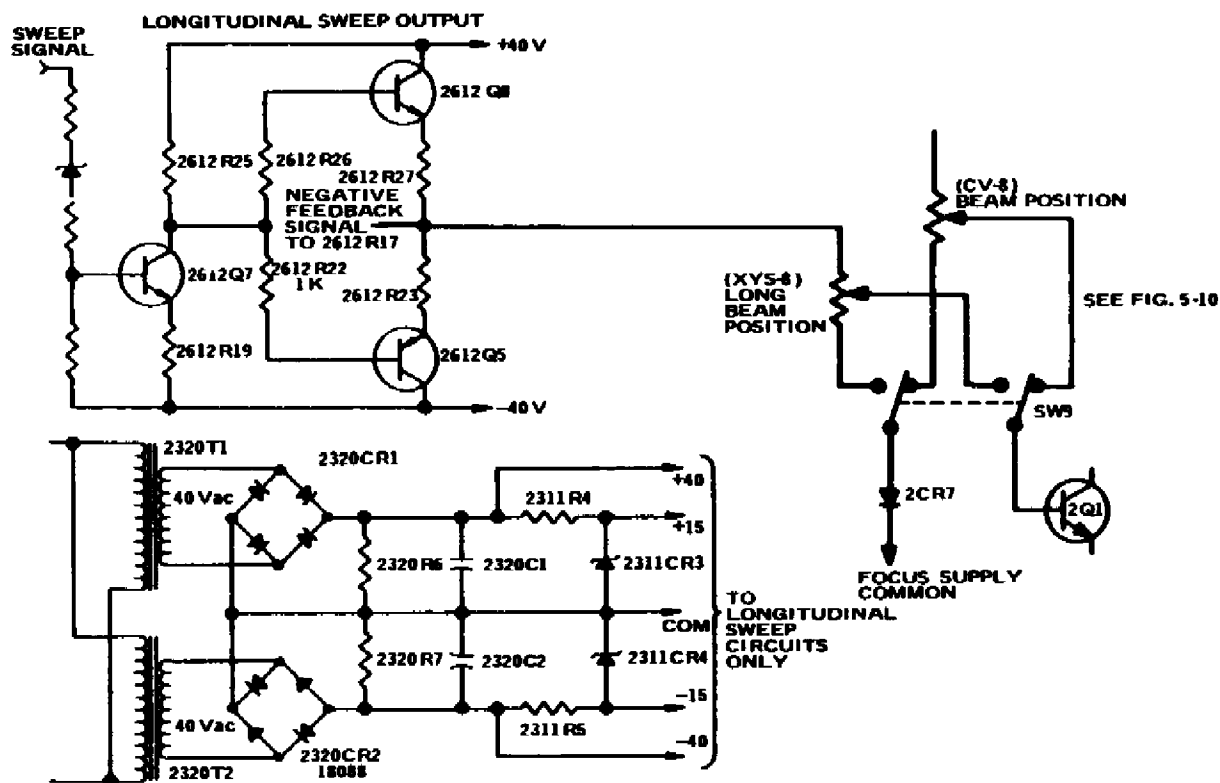

Figure 5-15. CV-8 A and B longitudinal sweep power supply (drawing 506-1604)
- 5.5.2 Longitudinal Sweep Output (Figure 5-15)
Since the longitudinal sweep amplifier has only to drive the longitudinal focus board, the high power output transistors Q6 and Q9 are eliminated from this section and from figure 5-15. The longitudinal sweep amplifier drives the input to the focus board through 2640SW8 and 2640R1, the BEAM POSITION control.